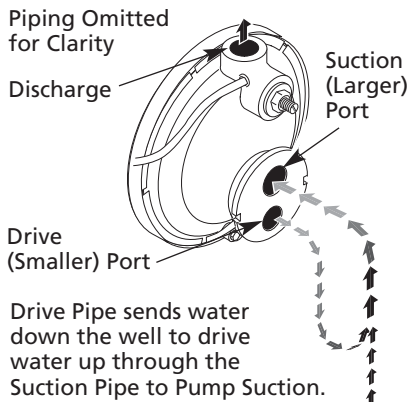
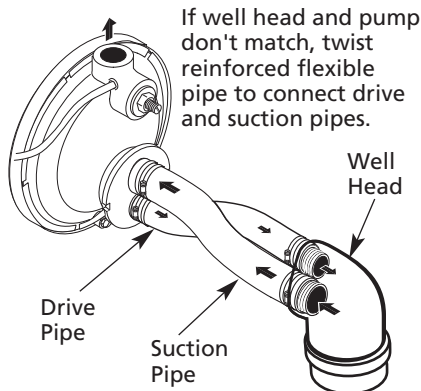

Figure 3 – Drive and Suction Functions
Figure 4 – Reversed Connections to Well
2. If your old pump has the suction pipe (the larger port – See Figure 3) below the drive port, you will need to install flexible pipe between the well head and the pump so that the connection will be correct (See Figure 4).